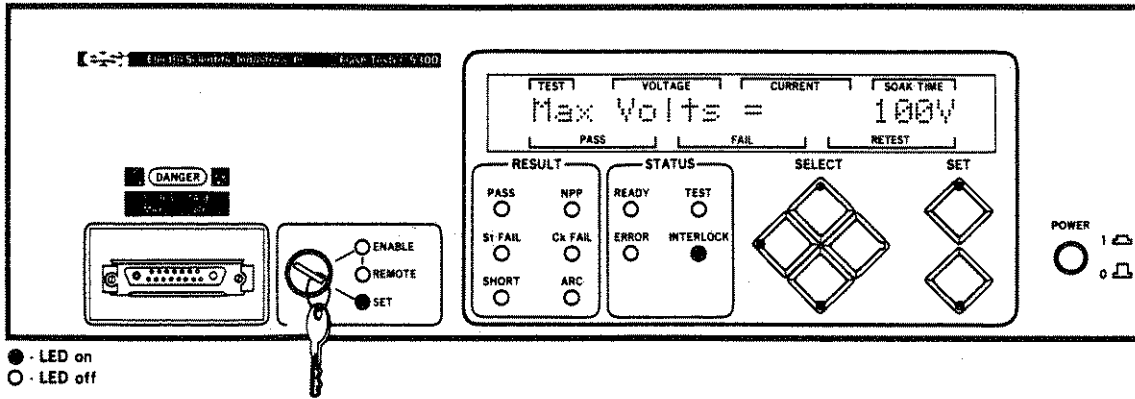

Figure 3-34. Changing the Maximum Voltage
STEP 2. The first time after power up (or Reset) that the Configure mode is entered, the display should indicate the Instrument Identification. Press the DOWN pushbutton once to change to the Maximum Voltage display. To change this value, press the INC or DEC pushbuttons. Refer to Figure 3-34.